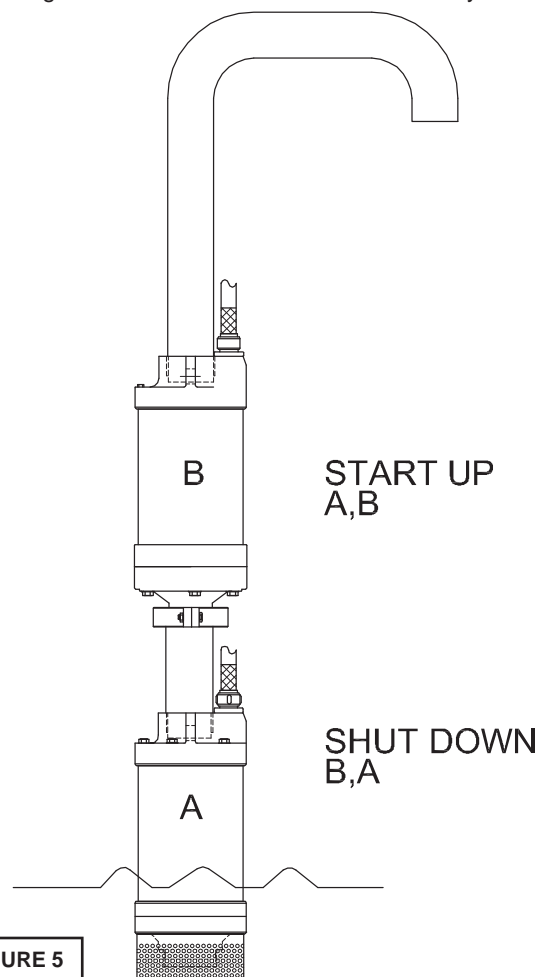

FIGURE 5
**DO NOT** attempt to start a frozen pump. Instead, submerge pump in water for twenty (20) minutes before starting. **DO NOT** attempt to thaw a frozen pump with a torch. Start pumps one at a time to avoid excessive current draw on power supply. When starting up pumps connected in series, turn on the bottom pump first, then the next to the bottom, etc (See Fig 5). When shutting down, turn off the top pump first and continue downward after allowing sufficient time for the water column to drain down to the next lower pump. This process reduces the chance of over-pressuring the lower seals when there are no system check